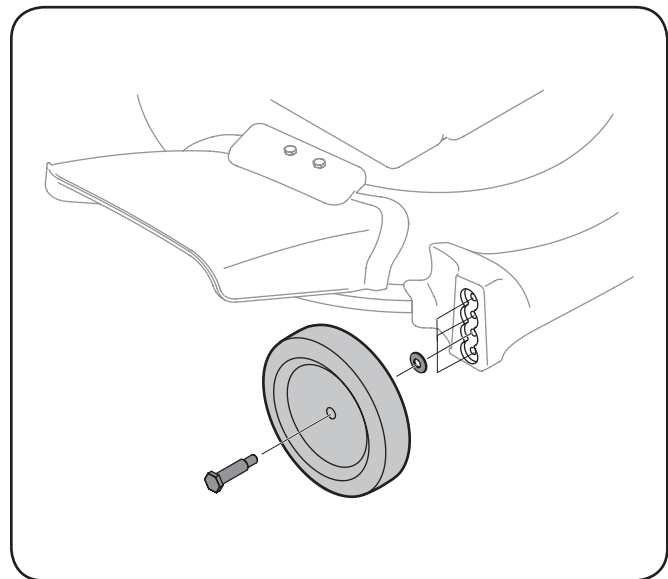

Figure 3-9
1. Remove the shoulder bolts and washers from the wheels as shown in Fig. 3-9.